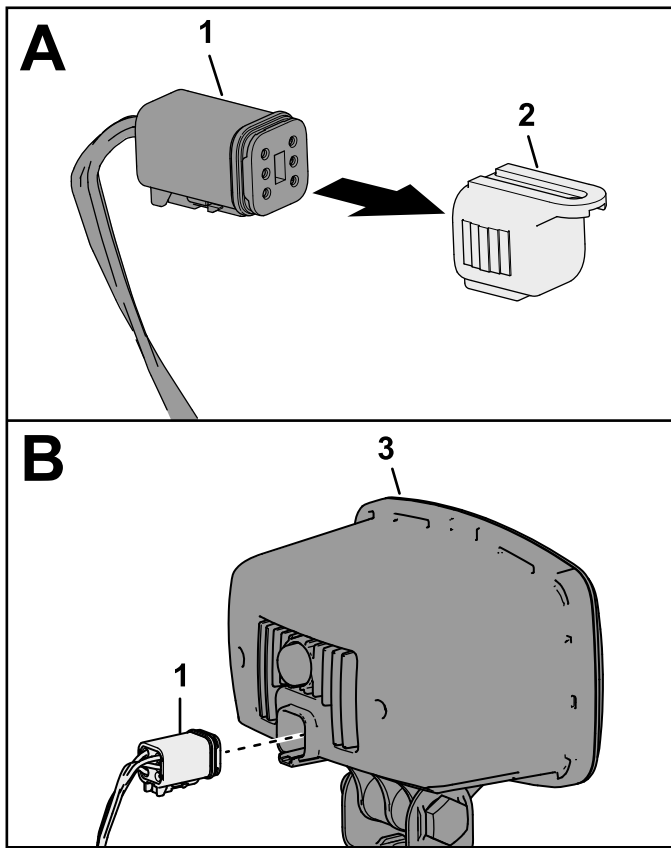

Figure 14
2. Remove the cap from the 6-socket connector labeled HEADLIGHT LH or the 6-socket connector labeled HEADLIGHT RH of the machine wire harness, and plug the connector into the headlight (Figure 14).